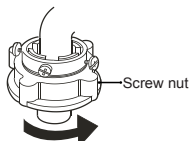

Figure 5
5. Twist the fastening knot, See to Figure 5. After installation, the threading is less than 2mm above the upper surface of the knot. See to Figure 6.